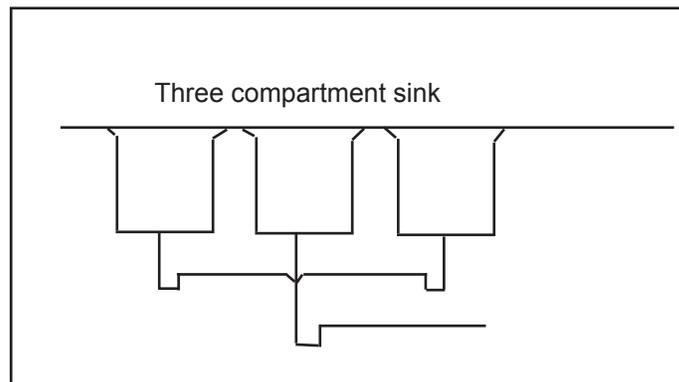

Figure 23. Exception for individual traps.
- Multi-compartment fixtures are not required to be separately trapped if the installation complies with the following limitations (See figure 23):
- Storm drains, as provided in s. Comm 82.36 (12) (a) are not required to be individually trapped.